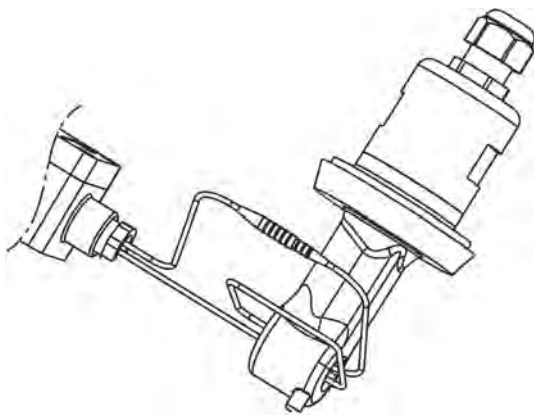

Fig. 78: Connecting the wire ends
8. ▶ Connect the wire ends of the calibration adapter's conductor loop. (See Fig. 78 .)